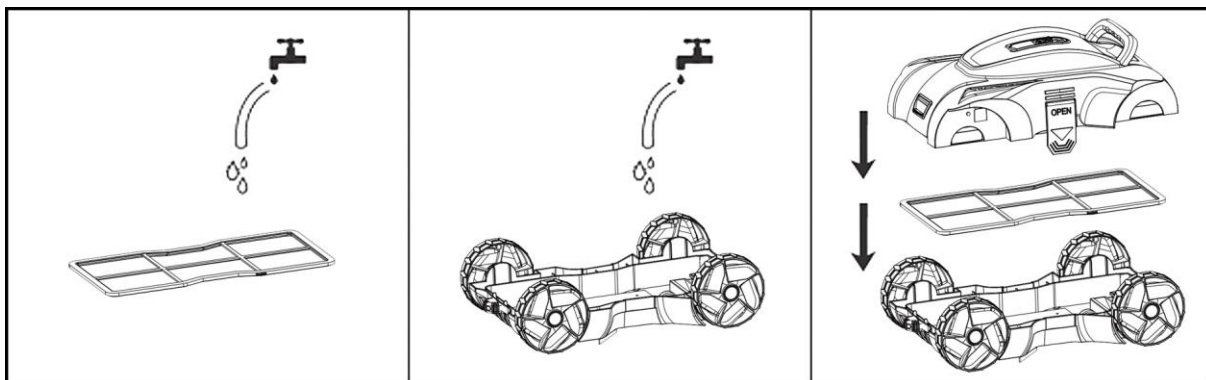

Fig. 6
- Remove all dirt and water from inside the device (Fig. 6).
- Assemble the device in the reverse order to ready it for use again (Fig. 6).